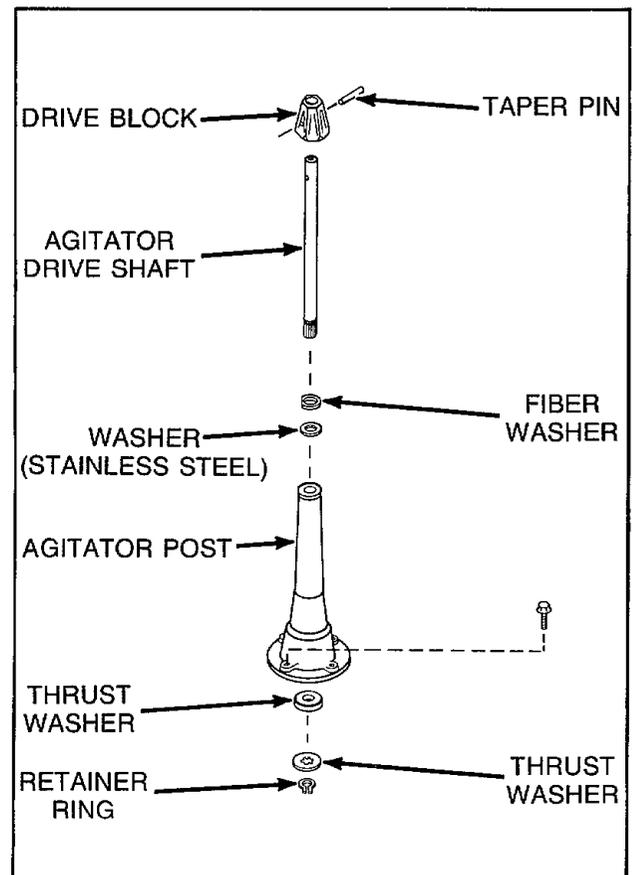

Figure 13
12. AGITATOR DRIVE SHAFT (Refer to *Figure 13*)